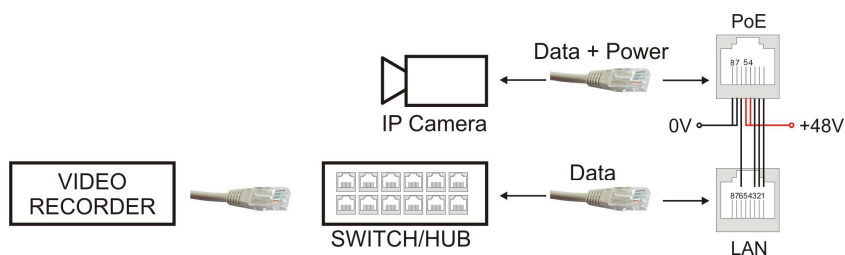

Fig. 4. Connection of network devices to the LAN and POE terminals.
3. Connect the network cables (Ethernet) to the PoE, LAN module: supply voltage is present only at the PoE sockets and the devices should be connected to them. Connect the Ethernet signal from the network switch to LAN connectors. Pin assignment of the LAN and POE sockets is shown in the Figure 4: